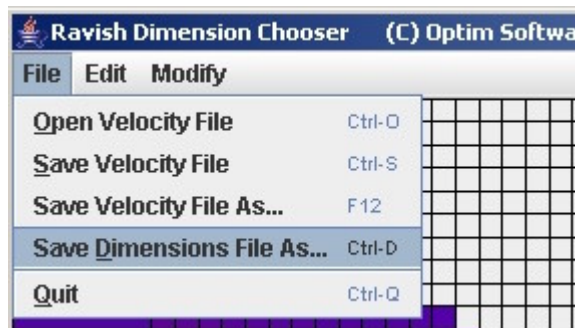

Figure 53: Save the dimension file that needs to be input into 'RIOTS Settings' to run the variable grid optimization.
- Once the desired changes are made, save the dimension file that contains information about the variable grid mesh. To do this select 'Save dimension file as' under the File menu and specify a name (Figures 53 and 54).